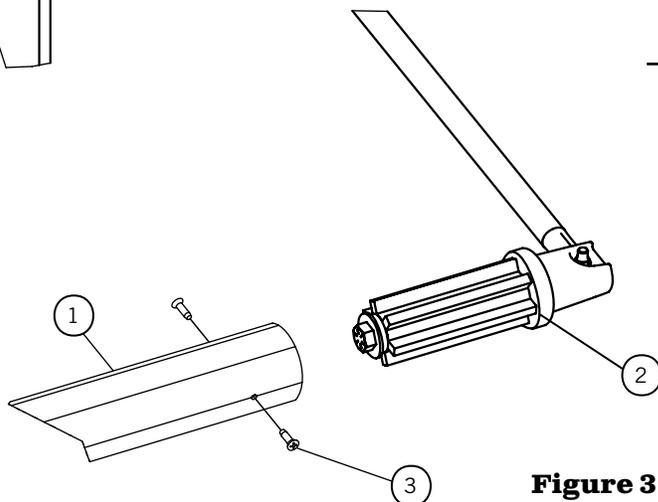

Figure 35-3
- 2) **Figure 35-3.** Slide the roll pipe over the spline adapter on the rear arm assembly. Using a valley in the OD of the roll pipe as a centerline, drill holes at 2" and 4" back from the end of the roll pipe.
- 3) **Figure 35-3.** Use the supplied self-tapping screws to connect the roll pipe to the rear arm.